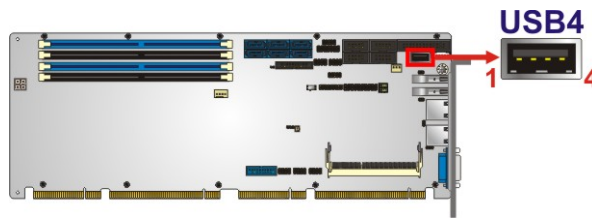

Figure 3-29: USB 2.0 Connector (Type A) Pinout Location
- CN Location:** See **Figure 3-29**